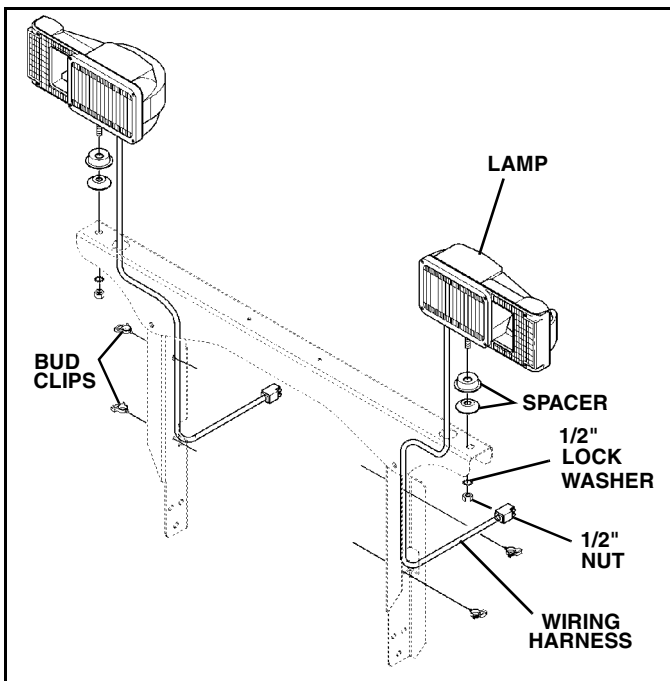

Figure 1-11
Mount lamps on light bar using supplied 1/2" lock washers and nuts. (See Figure 1-11).
19. Route the harnesses through the light bar, through the access hole and down the inside of the light bar supports. Pass each plug through hole in back of light bar supports and connect. (See Figure 1-11).